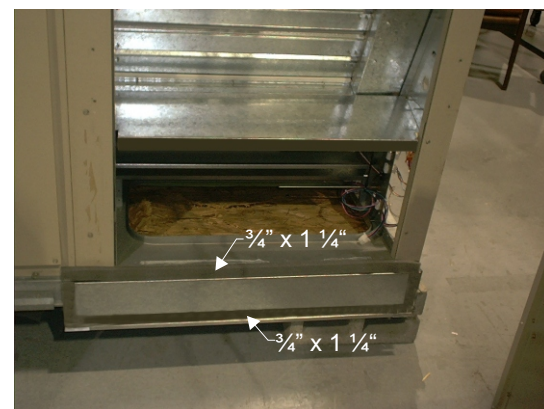

Figure 10
- 11- Remove and retain two (2) screws from each side of economizer division panel; discard panel. Position the provided divider panel in approximately the same location, sloping downward. **See Figure 10.** Align two holes on each side of new panel with holes previously used. Secure panel using retained screws. Apply 3/4" x 1 1/4" gasket to front edge of divider panel.
- 22- Position the ERS support rail in the rooftop unit horizontal return air opening. Orient the notched flange away from unit. Align bracket screw holes with base plate holes and secure with existing screws. Apply  $\frac{3}{4}$ " x  $1\frac{1}{4}$ " gasket to the bracket top and side flanges. **See Figure 10**.